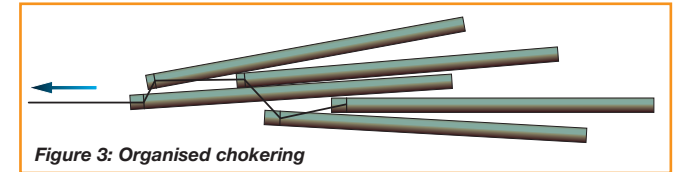

Figure 3: Organised choking
- ❑ 18 Organise the choking system to allow the load to be freely winched in, avoiding obstructions (see *Figure 3*).